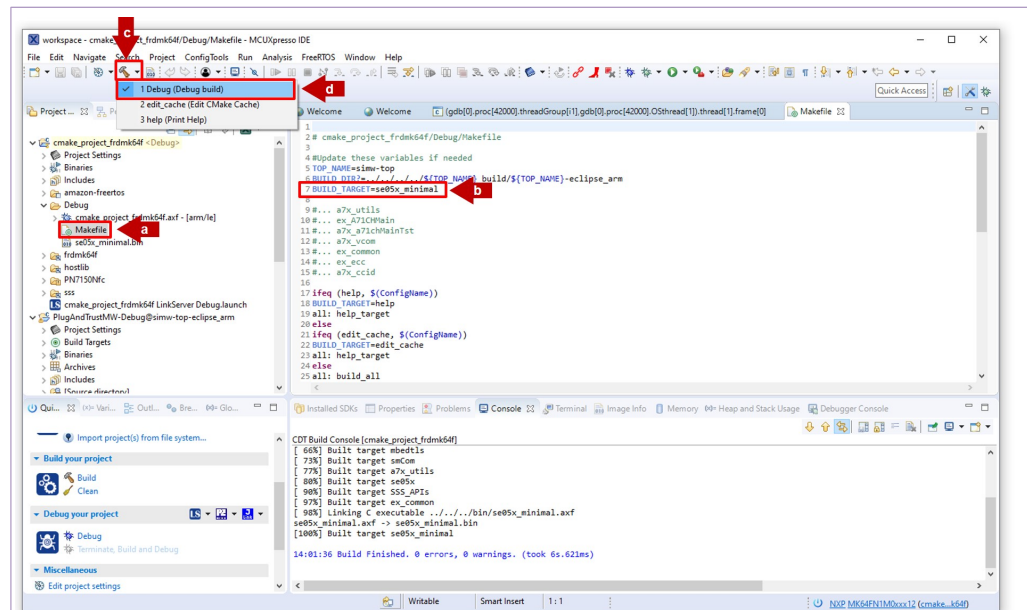

Figure 39. Debug EdgeLock SE050 Plug & Trust middleware se05x\_minimal project example
3. Select the `se05x_minimal` as the project to be executed. For that, follow the steps shown in Figure 39: